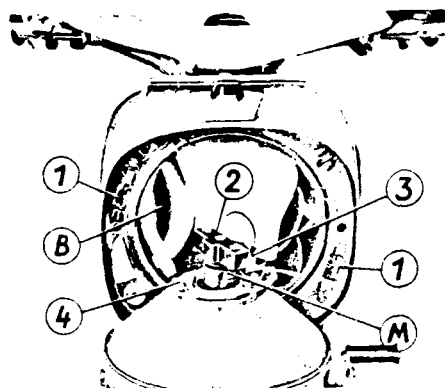

Fig. 106. ES-headlamp open
The flasher unit (B) shown in Fig. 106 is sensitive to impacts and the like and, therefore, it is embedded in foamed plastics.